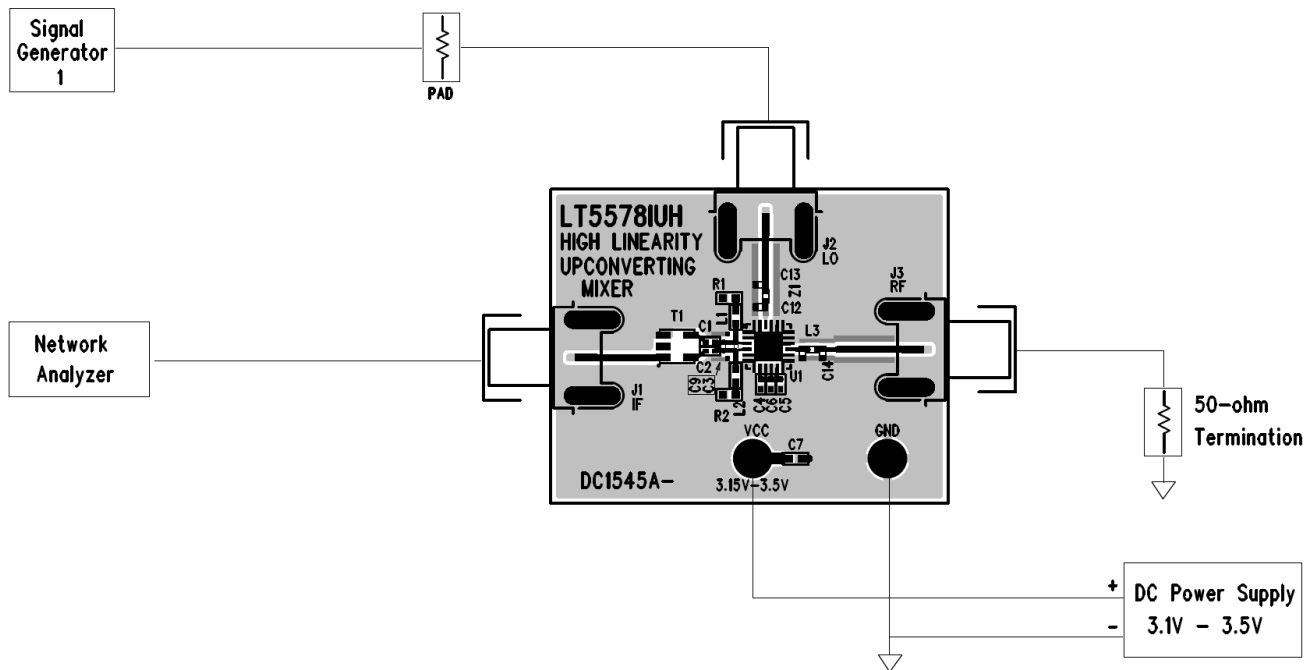

Figure 4. Proper Equipment Setup for Return Loss Measurements
Demonstration circuit 1545A-x is easy to set up to evaluate the performance of the LT5578. Refer to Figures 4, 5, and 6 for proper measurement equipment connections and follow the procedure below:
3. Connect all test equipment as shown in Figure 4.